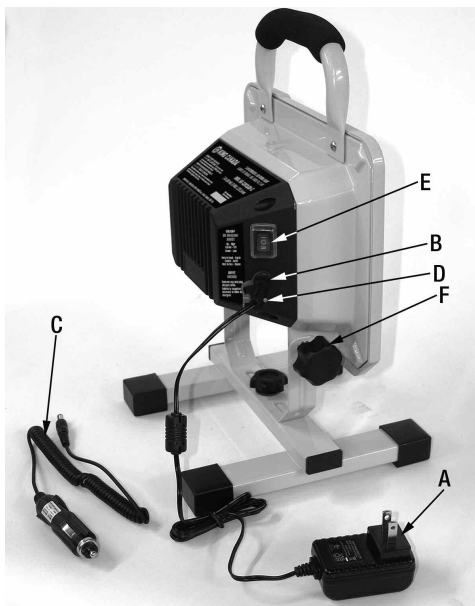

FIGURE 3
Locate the 120V charger (A) Fig.3 and plug it into the input jack (B) as shown. Plug in the charger into an appropriate 120V power outlet.
Locate the 12V charger (C) Fig.3 and plug it into the input jack (B). Plug in the charger into an appropriate 12V cigarette lighter outlet.
The work light comes with an indicator light (D) Fig.3, a flashing red indicates the battery is not fully charged. A red/green indicator light means battery is charging, a green indicator light indicates the battery is fully charged. It can take up to 5 hours to fully charge the battery.
Your work light is equipped with a sealed On/Off switch (E) Fig.3 located on the side of the work light. This switch controls the light intensity (high/low). Move switch upwards to set light intensity to High. Move switch downwards to set light intensity to Low. Move switch to the centre position to turn LED light Off.
Your work light can be tilted vertically. To adjust the light direction, loosen the side locking knobs (F) Fig.3. Adjust the work light head to desired position, and retighten knobs.